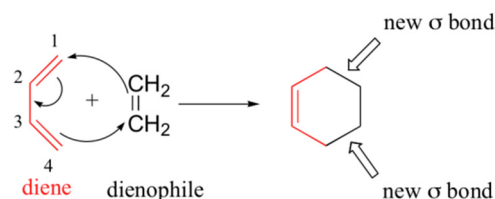

Figure 13: Basic process of electrocyclic disconnection.
Figure 13 below, it is the basic way to display how the process was. The left diene gets 2 double bonds, and the dienophile only has one double bond. As the arrow denotes, electrons from the dienophile attack the carbon (1) and make a bond between the diene and dienophile over there.